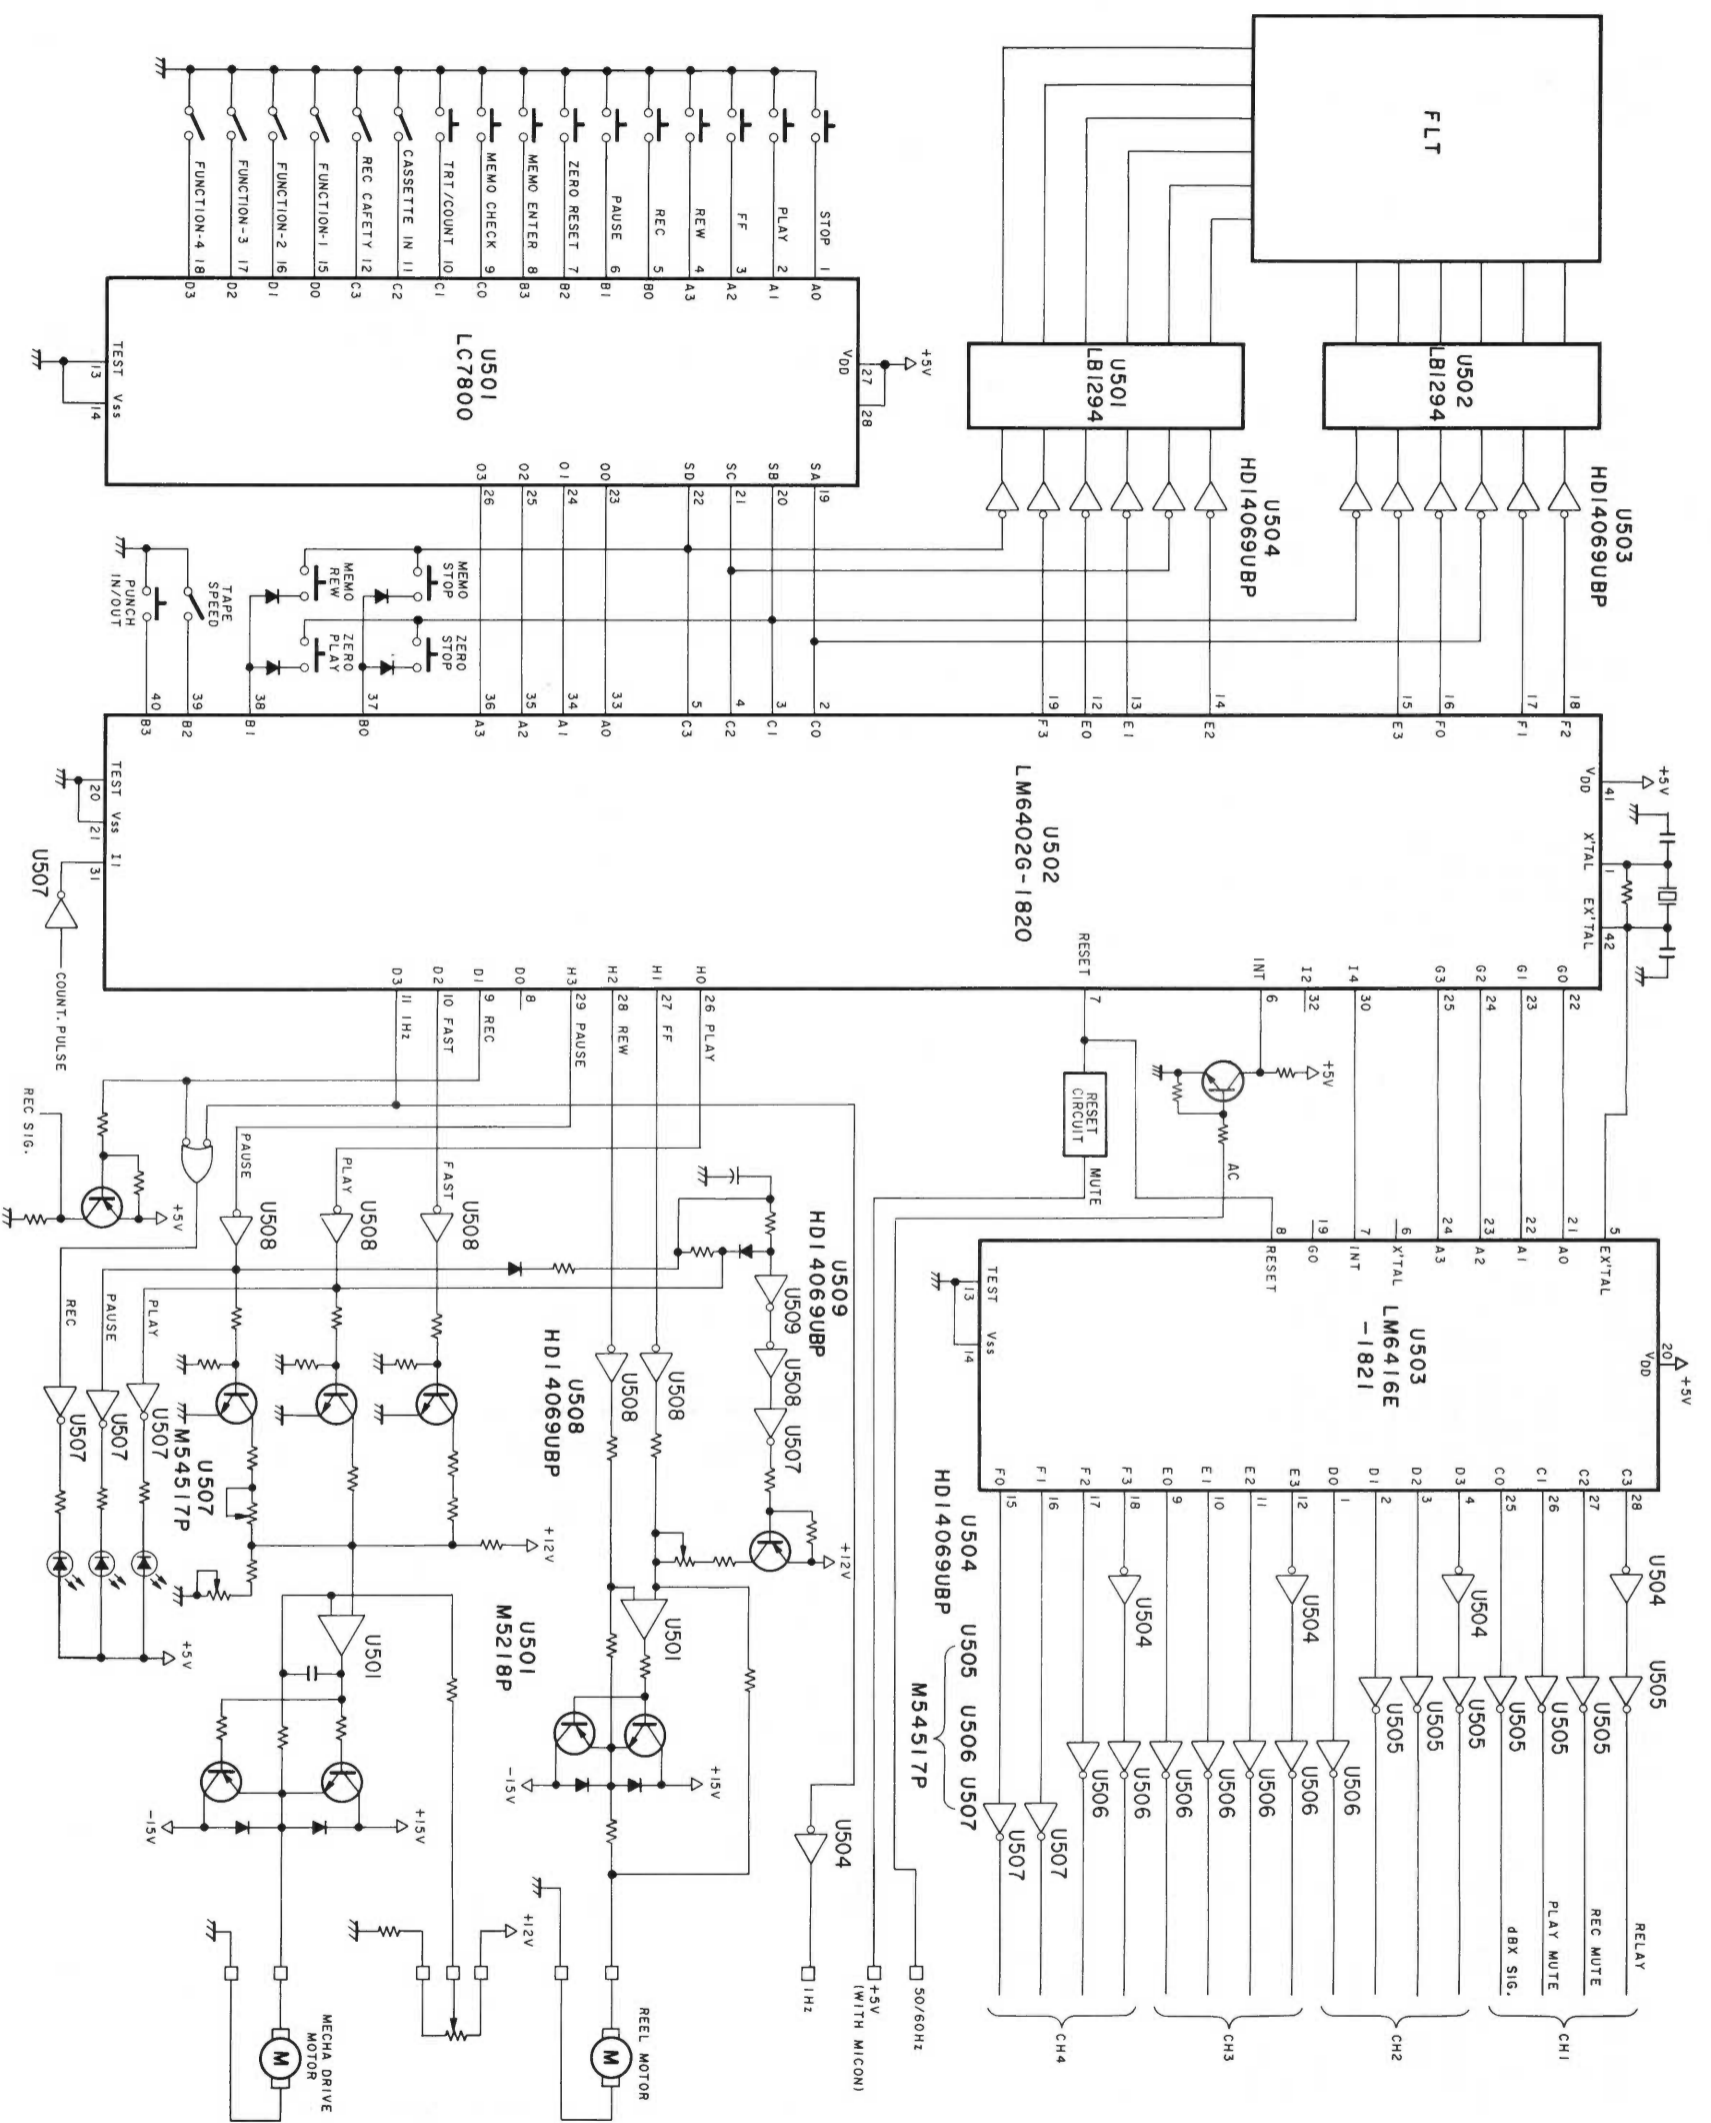
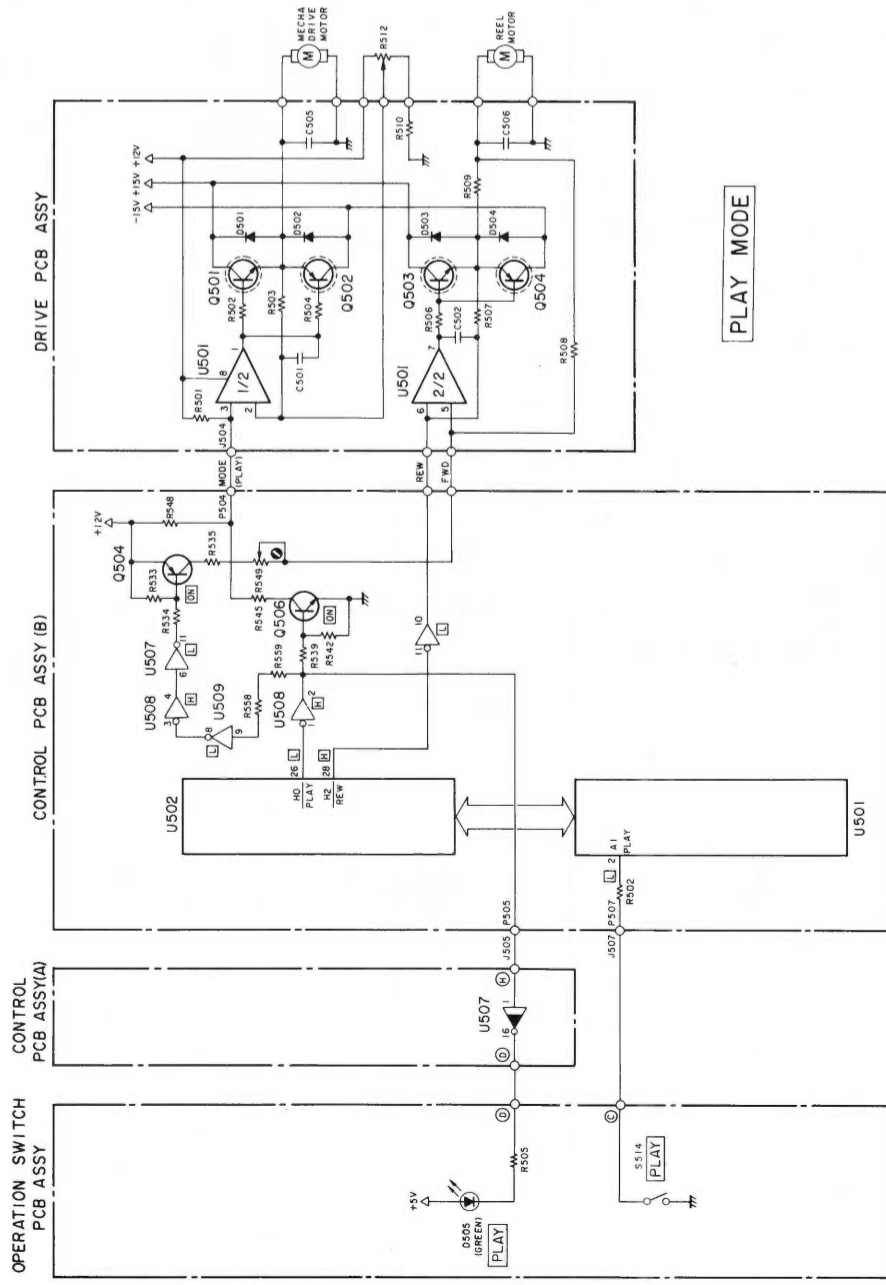

Fig. 2-2
Fig. 2-3
The control circuit, as shown in Fig. 2-2, consists of the main unit composed of four-bit single tip microcomputer (U502), input-port extension interface IC (U501), and output-port extension interface IC (U503), and the logic circuits.
- 1) The input-port extension IC U501 is composed as shown in Fig. 2-1 and operation switches of the deck are connected to its input terminals as shown in Fig. 2-2.
- 2) Output terminals (C0 - C3) of the microcomputer U502 generates four-phase scanning pulses as shown in Fig. 2-2, and they are connected to the terminals SA - SD of U501.
- 4) However, as for zero stop, zero play, memory stop and memory REW, U501 is not used but a separate circuit is used as shown in Fig. 2-2.
- When the PLAY switch is pressed, PLAY terminal in the Fig. 2-2 turns to L and A1 terminal of U501 also turns to L (refer to Fig. 2-3).
- The L level signal from the D1 terminal is also applied to Q503 base, conducting Q503. This turns Q503 collector to H level, and output pin 10 of the next inverter U507 to H level. This signal is then inverted by the inverter U507 on the CONT (A) PCB Assembly to light REC.LED (D507).
- The H level signal from output pin 2 of U508 on control PCB assembly (B) is applied to PLAY.LED via the inverter U507 (1, 16) as was described in the PLAY mode, and lights up the LED. Also the signal turns on Q504 via U509 (9, 8), U508 (3, 4) and U507 (6, 11), and turns FWD terminal of P504 to H level to generate control voltage for the REEL motor to rotate in the forward direction.